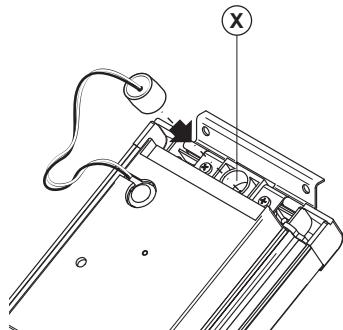

Fig. 7
7. Insert the microphone of the door unit amplifier into the microphone hole **(X)** (Fig. 7);